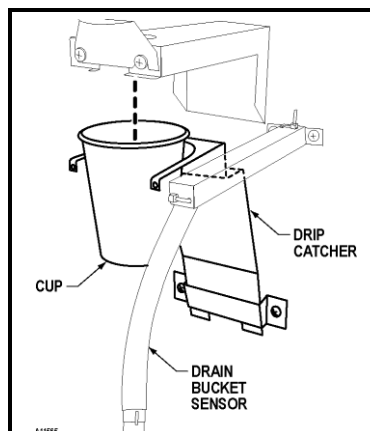

Figure 12a. Drip Catcher
2. Place a small cup on the Drip Catcher Cup Holder. See **Figure 12a.**